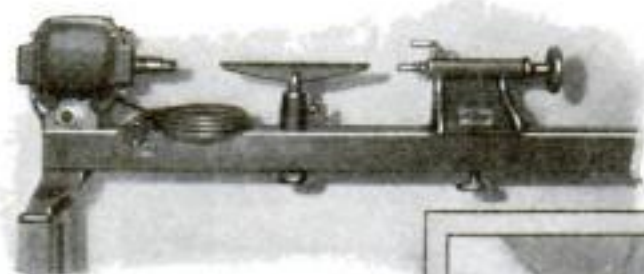

Fig. 2. This is a lathe which is driven by a motor mounted directly on the headstock. The choice of lathe is largely a matter of personal preference.
**M**ANY excellent small wood turning lathes are now available. They may be classified roughly into two divisions, depending upon the way in which they are driven. One type has a cone or step pulley on the headstock and is driven by means of a belt from a similar pulley mounted on a countershaft, which, in turn, is driven by a motor or engine. A typical small lathe of this kind is illustrated in Fig. 1. The other type has the motor mounted on the lathe bed as part of the headstock; this is shown in Fig. 2. Both types are equally good for the average work.